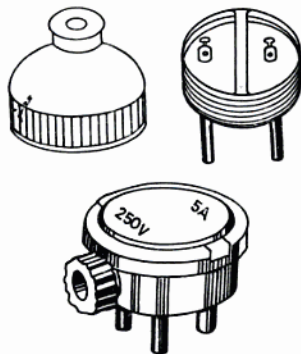

Fig. 2.11 Two- and three-pin plug top
**Plug Tops** These are made of Bakelite and are used to supply current to various appliances (Fig. 2.11)